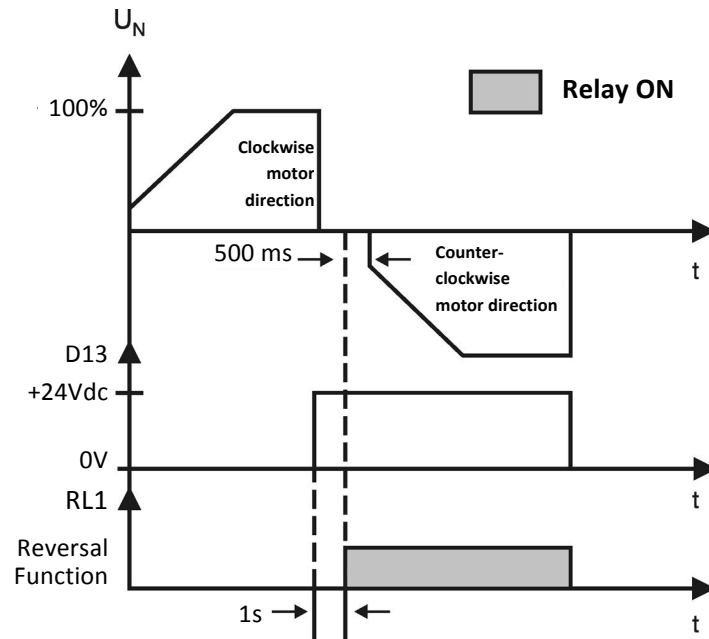

Figure 5.11: “Rotational Direction” function
- 3) "Direction of Rotation" function – the relay is "on" when the digital input (DI3) is kept closed, and "off" when open. Relay RL1 will only command a contactor connected to the SSW-03 output, which will reverse 2 motor supply phases. As seen in figure 5.11.